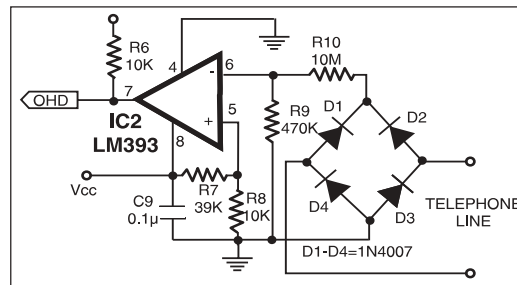

Fig. 3: Off-hook detector
**Off-hook detector (Fig. 3):** The telephone line voltage is around 48V when unit is on-hook. This voltage falls to around